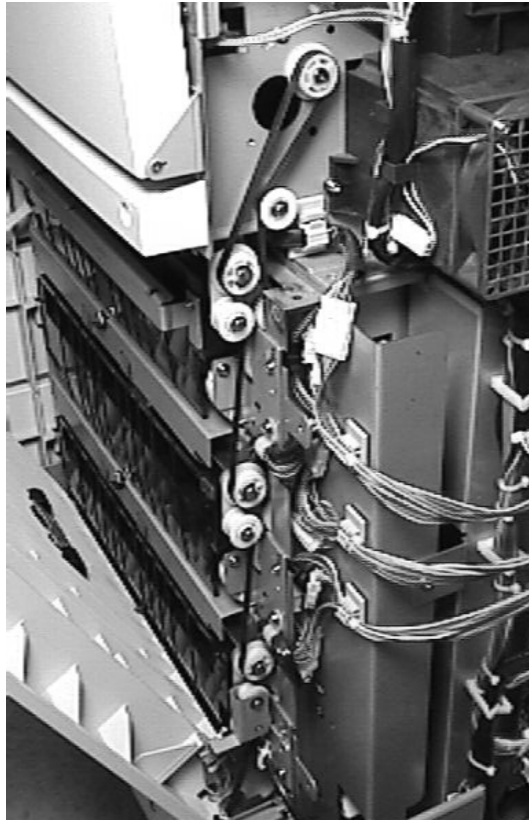

Figure 5-75 Upper Belt Route
Step 4 Reattach the drive belt (Figure 5-75).